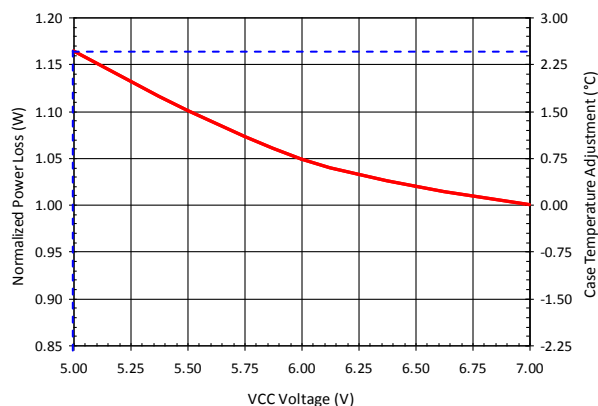

Figure 13: Normalized Power Loss vs. VCC Voltage
- 5) Determine the VCC MOSFET drive voltage normalizing factor with  $VCC=5V$ , which is 1.16 based on the dashed lines in Figure 13.
- 12) Determine the case temperature with  $VCC = 5V$ , which is  $+2.4^{\circ}$  based on the dashed lines in Figure 13.